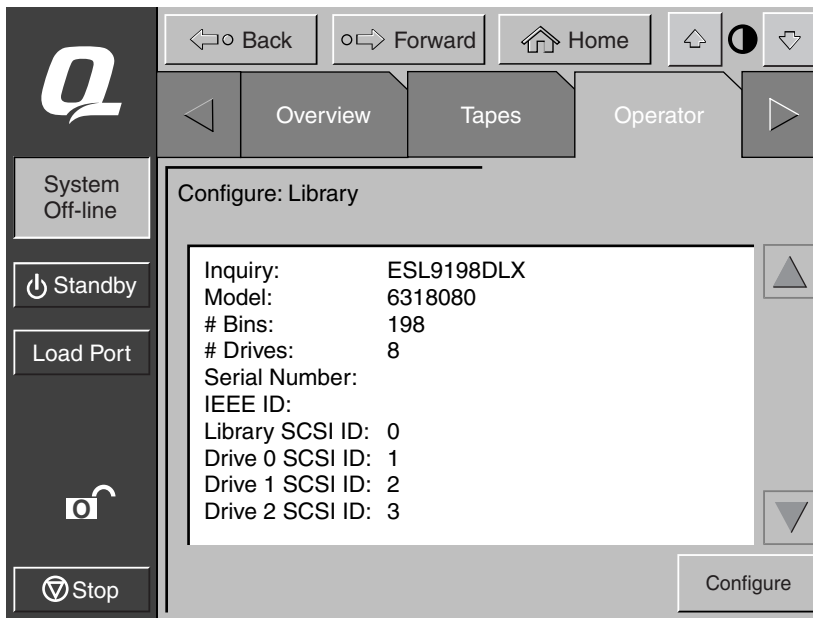

Figure 4-3. Configure: Library screen (ESL9198 shown)
1. In the Operator screen, press the **Configure Library** button. The control panel displays the Configure: Library screen (see Figure 4-3).